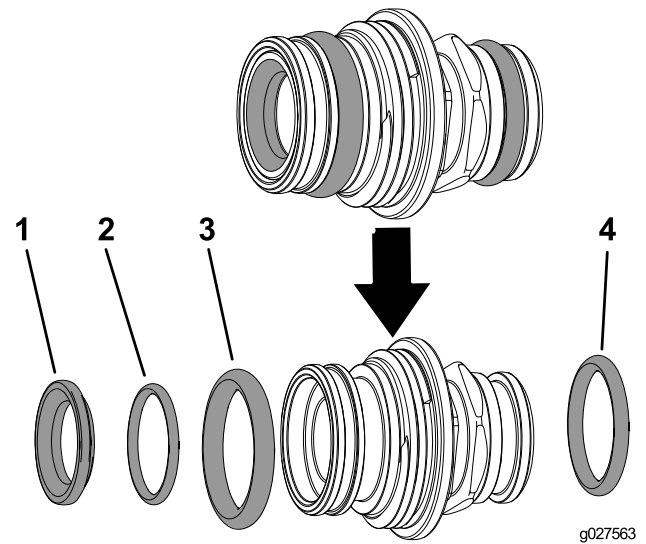

Figure 2
11. Remove the valve seat O-ring, back seating O-ring, endcap seal O-ring, and the outlet fitting O-ring (Figure 2).